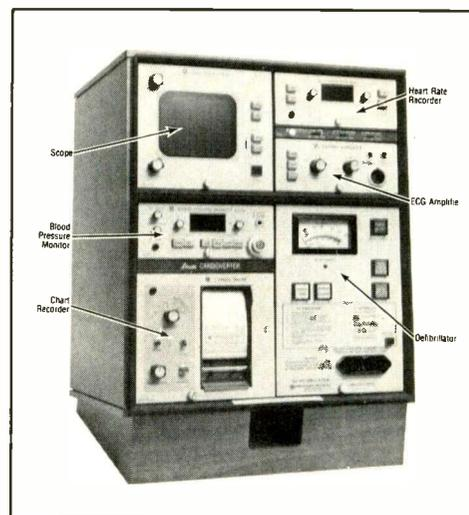
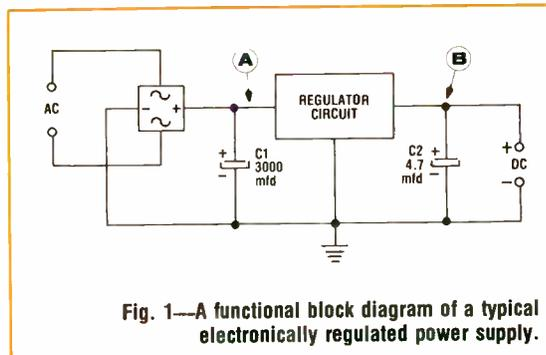

Fig. 2—A bedside defibrillator and monitoring package. (courtesy of American Optical)
Fig. 1—A functional block diagram of a typical electronically regulated power supply.
Noise voltage caused by thermal agitation of electronics in a 75-ohm antenna or terminating resistor is about  $1.1 \mu\text{V}/\text{Ch}$ , or  $-59.1 \text{ dBmV}$  at room temperature, as illustrated in Fig. 2. At  $-25^\circ\text{F}$  it drops to  $-60 \text{ dBmV}$  ( $1.0 \mu\text{V}$ ) and rises to  $-58.6 \text{ dBmV}$  ( $1.175 \mu\text{V}$ ) at  $+140^\circ\text{F}$ . So, for all practical purposes, we can consider the minimum noise voltage in round numbers as  $1 \mu\text{V}/\text{Ch}$ , or  $-60 \text{ dBmV}$  across 75 ohms. This means that there will always be a theoretical, bare-minimum noise level of  $1 \mu\text{V}/\text{Ch}$  of thermal noise measured anywhere in a 75-ohm system from the antenna to the TV set.
The size of the charge to be stored in the capacitor is determined by the charge control knob on the front panel and is read from the calibrated panel meter. Fig. 2 shows a similar instrument but of more recent vintage. The charge control knob in this later instrument has been replaced by pushbutton switches.
Fig. 2—Waveforms produced by the power supply circuit shown in Fig. 1. (A) shows the ripple present at point A in Fig. 1. (B) shows the waveform at point B in Fig. 1, after regulation.
A lot of modern electronic equipment is operated from internal regulated power supplies. One feature of such power supplies is that almost all of the AC ripple normally encountered in rectifier circuits is suppressed by the regulator. Fig. 1 shows a functional block diagram of an electronically regulated supply. The waveforms to be found at points A and B are shown in Fig. 2. (The vertical amplifiers in the dual-trace oscilloscope have been adjusted to have the same sensitivity so that the relative amplitudes of two voltages can be compared.)
The top waveform in Fig. 2 shows the ripple present at point A in Fig. 1. This point is at the output of the rectifier bridge and be-